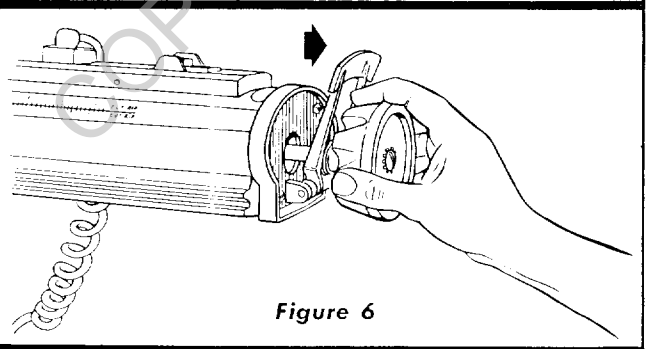

Figure 6
- e. Loosen the arm latch knob by rotating it counterclockwise until it stops. (See figure 6.) This should free the radial arm permitting it to be moved from left to right by hand.